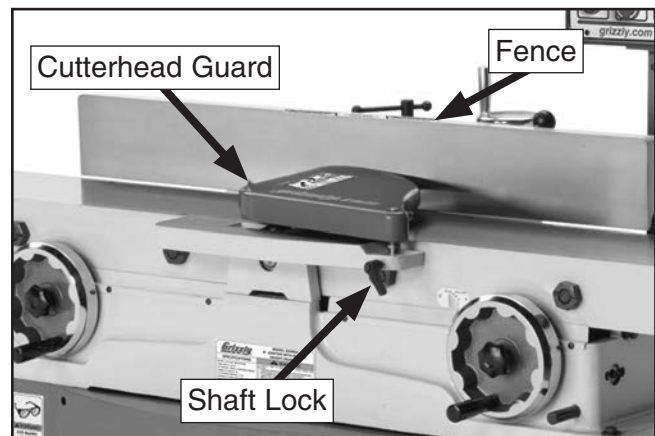

Figure 9. Cutterhead guard installed.
6. Remove pre-installed button head cap screw and flat washer from bottom of cutterhead guard shaft (see **Figure 9**); then loosen shaft lock and insert shaft into mounting hole, positioned so guard rests against fence.